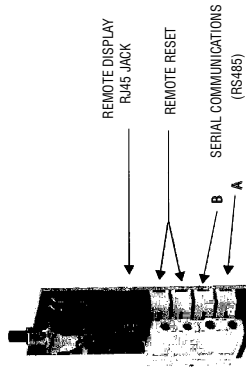

FIGURE 5.
The MEC120R, MEC120RC, or any chassis type with the appropriate plug-in board installed provides remote reset capabilities in the event of a lockout condition. A remote reset switch consists of a dry contact such as a remote momentary push-button wired to the two (2) terminals located on the plug-in board as shown in Figure 5. The reset switch will also force the MicroM to recycle if depressed and released during the purge or run period.